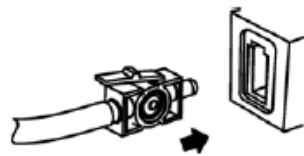

Figure 1
1. The sample cell of the sampling kit must be inserted into the sample cell receptacle of the LoFlo CO₂ Module as shown in Figure 1. A “click” will be heard when the sample cell is properly inserted.